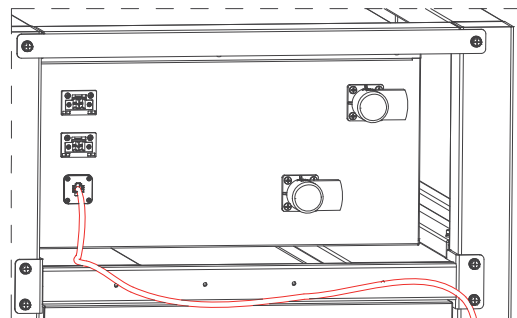

Figure 2.14
(10) The main control box communication CAN line is connected to the PCS communication CAN line. Plug in and lock the main control box CAN communication plug, and lock the PCS communication CAN port. (Figure 2.14).